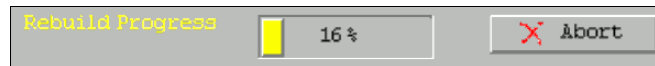

Figure 3-70 Physical drive: offline drive showing Rebuild Progress
- ▶ **Rebuild Drive:** This starts the rebuilding with the selected disk at the virtual disks that are in a *degraded* state. The drive state changes to *rebuild*. A status window opens, so you can follow the progress, as shown in Figure 3-70.